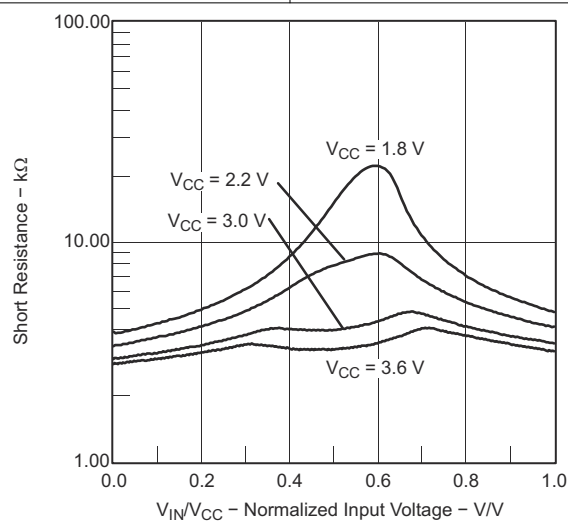

Figure 8-37. Short Resistance vs V_{IN}/V_{CC}
(1) The leakage current for the Comparator_A+ terminals is identical to I_{lkg(Px,y)} specification.
(2) Also see Figure 8-34 and Figure 8-37.
(3) The input offset voltage can be cancelled by using the CAEX bit to invert the Comparator_A+ inputs on successive measurements. The two successive measurements are then summed together.
(4) The response time is measured at P2.2/CAOUT/TA0/CA4 with an input voltage step and with Comparator_A+ already enabled (CAON = 1). If CAON is set at the same time, a settling time of up to 300 ns is added to the response time.